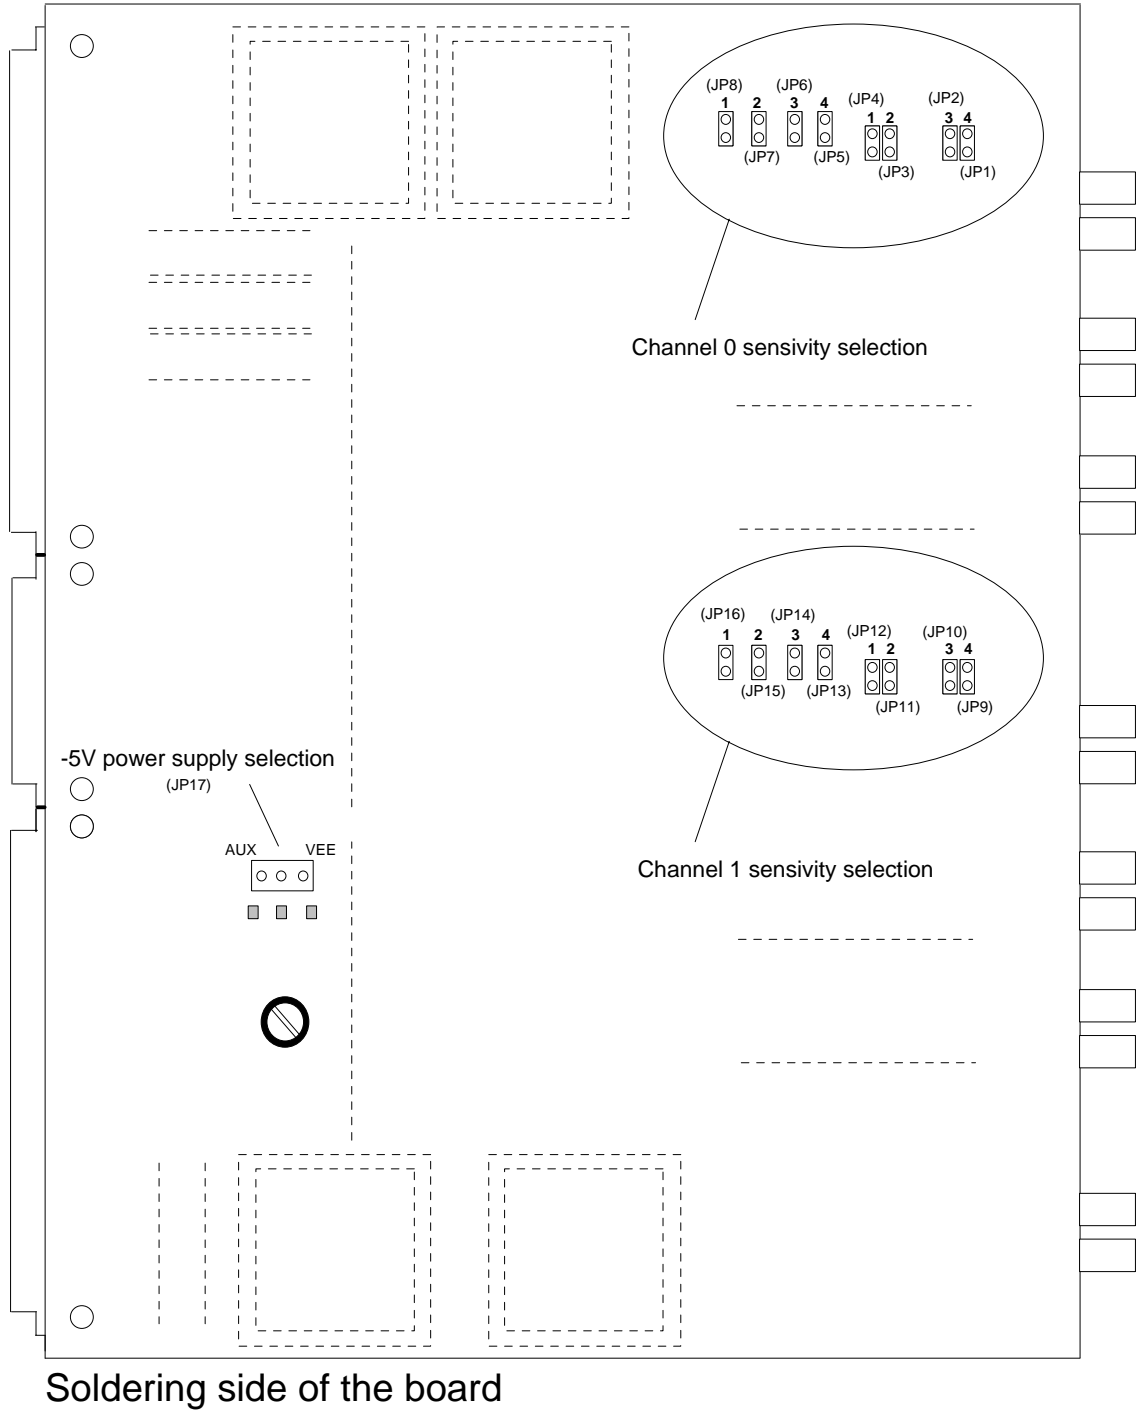

Fig. 2.3: Components Locations (soldering side)
- 1, socket strip housing a removable package resistor for the CK, CK*, CL, CL* Jaux lines termination (the resistor's common pin is shown in fig. 2.3). An alternative electrically isolated socket strip has been provided with the component side of the board: the removable package termination may be plugged here in case it is not used.